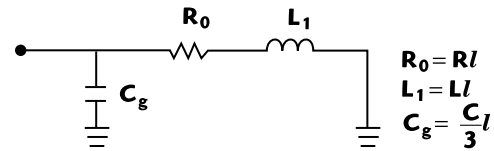

Figure 9: Low frequency lumped equivalent circuit for short-circuited lossy line
We recognize this as the admittance of the circuit shown in **Figure 9**. The inductance and capacitance both impose limits on how well matched we can make the termination over a given bandwidth.
In the late 1940s, H.W. Bode considered the problem of impedance matching two-element RC or RL loads.3 Bode's work was extended and generalized by Fano4 in 1950; Fano presented the limitations on impedance matching any load over an angular frequency range,  $\omega_a$  to  $\omega_b$ . However, for illustrative purposes, let us consider the case analyzed by Bode, i.e., where the inductive reactance is so much less than the value of the resistance at the highest frequency of interest that we can neglect the inductance altogether. For further simplicity, we take the lower frequency as zero (DC). Then, applying Bode's formula to the circuit of Fig. 9, the best possible results are limited as indicated by